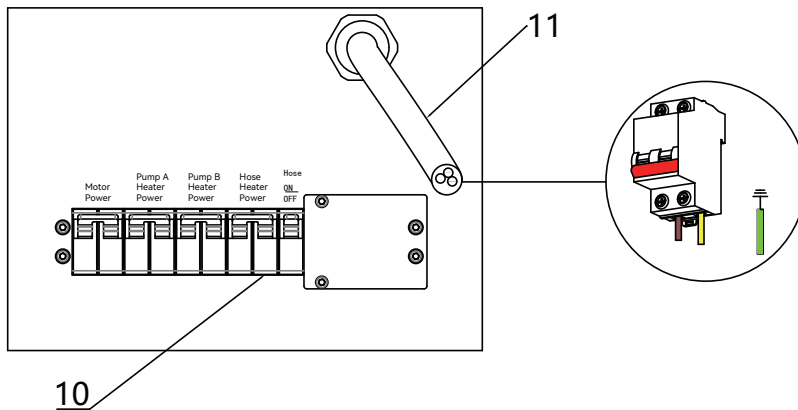

FIG. 4-2 EP7285 F Power Switch and Wiring Method (220V Type.)
Please choose a 220V AC connection, and the connected air switch must have a rated current of greater than or equal to 65A. The method for connecting the power cord (11) to the air switch is shown in Figure 4-2: the yellow and brown wires are connected to the air switch, and the green wire is connected to the ground.